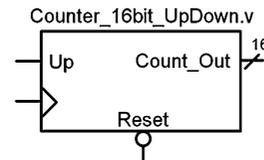

Fig. 9.4
9.2.3 Design a Verilog behavioral model for a 16-bit, binary up/down counter using a single procedural block. The block diagram for the port definition is shown in Fig. 9.4. When $Up = 1$, the counter will increment. When $Up = 0$, the counter will decrement.